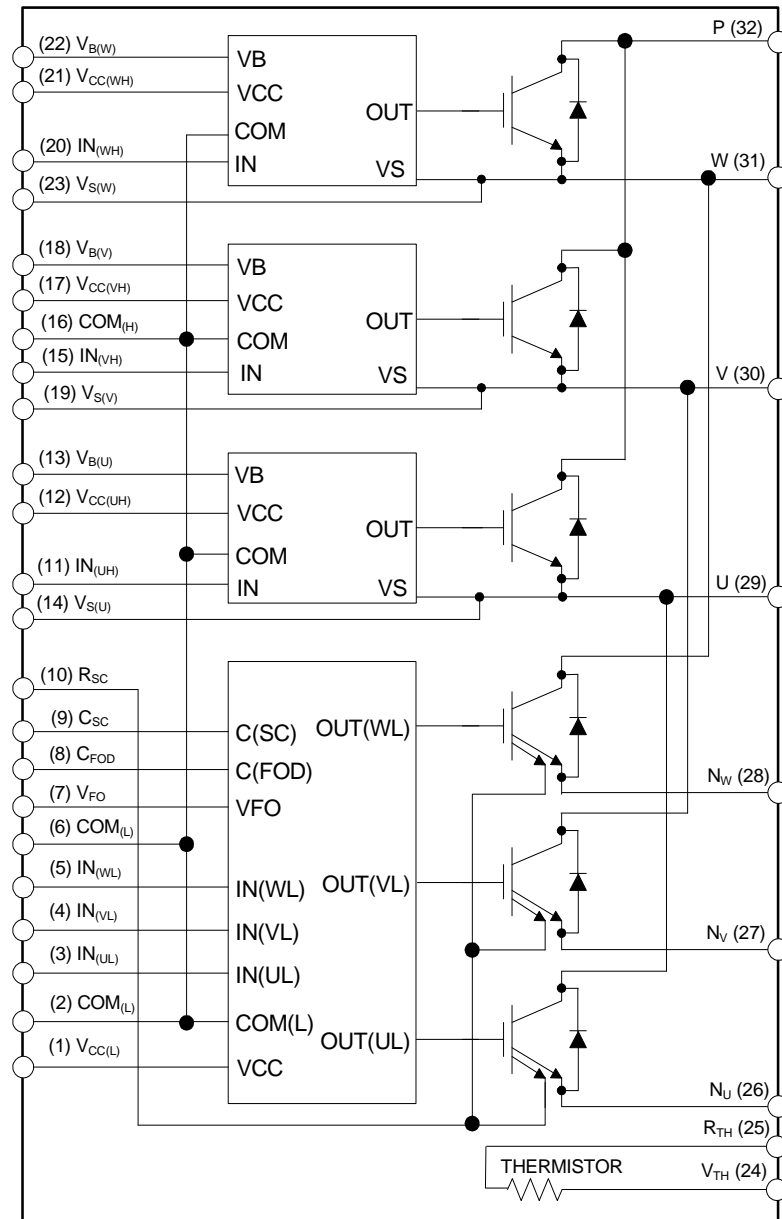

Figure 3. Internal Block Diagram
- 600V - 15 A IGBT inverter for three-phase DC / AC power conversion (please refer to Figure 3)